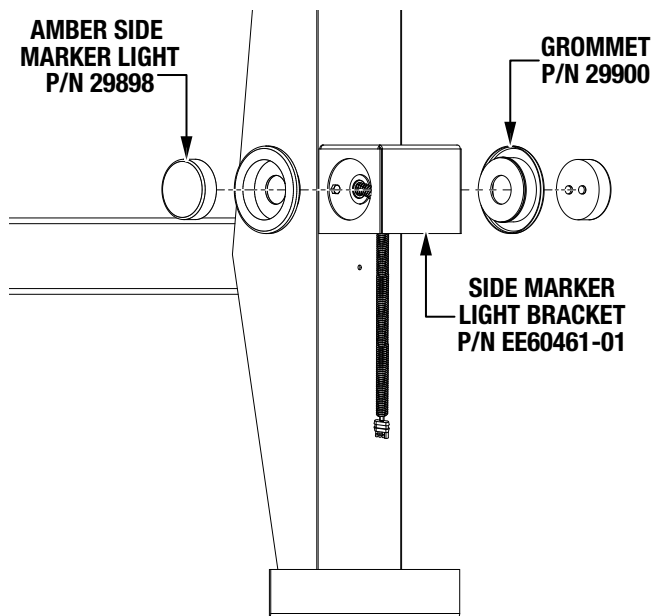

Figure 13. Side Marker Light Installation
2. Install the two amber side marker lights (P/N 29898) and two grommets (P/N 29900) into the side marker light bracket (P/N EE60461-01) as shown in Figure 13.